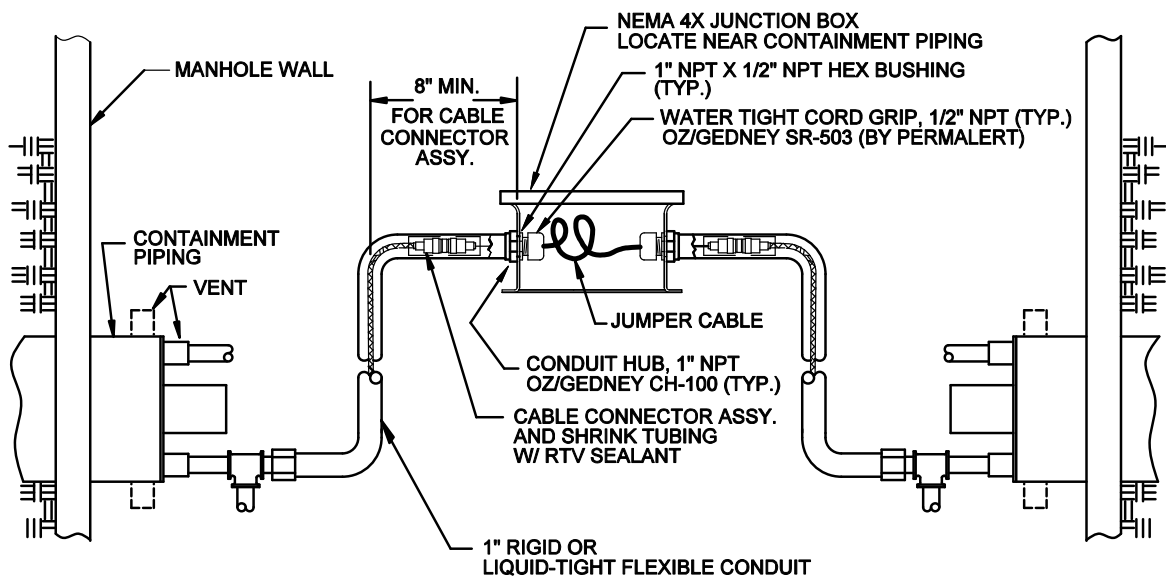

Figure 5-2
12. Where electrical conduit and junction boxes are required, use watertight NEMA 4X [IP66] boxes and mount per the instructions contained in this guide. Temporarily pull enough sensor cable out of the secondary containment and into the junction box (approximately 2' [600 mm]) to allow installation of cable connectors (see figure 5-2). **Make sure the bushings and cord grips are slipped on the jumper cable before installing the cable connectors.** Attach the cable connectors, test them, and push the assemblies into the electrical conduits. Thread and tighten the cord grips making a watertight seal against the jumper cable. The conduit termination points must be sealed. **Do not leave conduit termination points open, or moisture may enter and wet the sensor cable.**